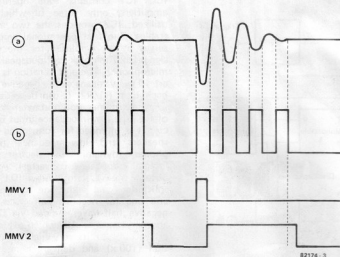

Figure 3. Signals at various points in the circuit:
block diagram (figure 1). The components required are basically only two ICs: IC1 contains four operational amplifiers, only three of which are utilized; IC2 provides the two monostables. The first operational amplifier serves as an amplifier for the drum signal from the pick-up (loudspeaker or microphone). The amplification is fixed at 10 x, by means of the negative feedback loop R1/R2. It can be varied by using a trimmer potentiometer instead of R2. The low-impedance input of the circuit is intended for connecting loudspeakers and low-impedance microphones (dynamic or electret with integral impedance converter). At the output of A1, two diodes (D1, D2) split the signal path: one for positive and one for negative half-waves. The negative half-waves are fed via D1 to another amplifier A2, which overdrives on account of its very high amplification (100 x) and delivers square-wave pulses at its output. At output TR these pulses have an amplitude of +15 V and at output TR their amplitude is +5 V. Thus suitable gate levels are provided for all common synthesizers. The fact that a whole train of pulses appears at the gate output for each drumbeat does not normally cause any problem, because the envelope generators of the synthesizer only trigger on the first leading edge and then allow their envelope to develop without being affected by subsequent triggering pulses. Should there be a problem, however, the signal at pin 9 or pin 13 of IC2 can also be used as the +5 V gate pulse. As shown in the pulse diagram of figure 3, a longer pulse is present at these points, which only appears once per drumbeat. IC2 is a TTL dual-monostable. The first monostable triggers on the pulse from output TR +5 V, which is connected to pin 10 of IC2. This first monostable generates a short pulse at its output pin 5 which turns on transistor T1. This causes capacitor C2 to discharge with the first half-wave of the drum signal. When this discharge pulse has ended, T1 turns off again; capacitor C2 is now ready for charging and accepts via diode D2 the peak voltage of the next positive half-wave from the output of the input amplifier. D2 prevents a discharge of the capacitor and the voltage is maintained until the next drumbeat. The high input impedance of the operational amplifier A3, which is utilized as a buffer for capacitor C2, caters for adequate stability of the storage stage. A buffered control voltage (CV) is present at the output of A3.